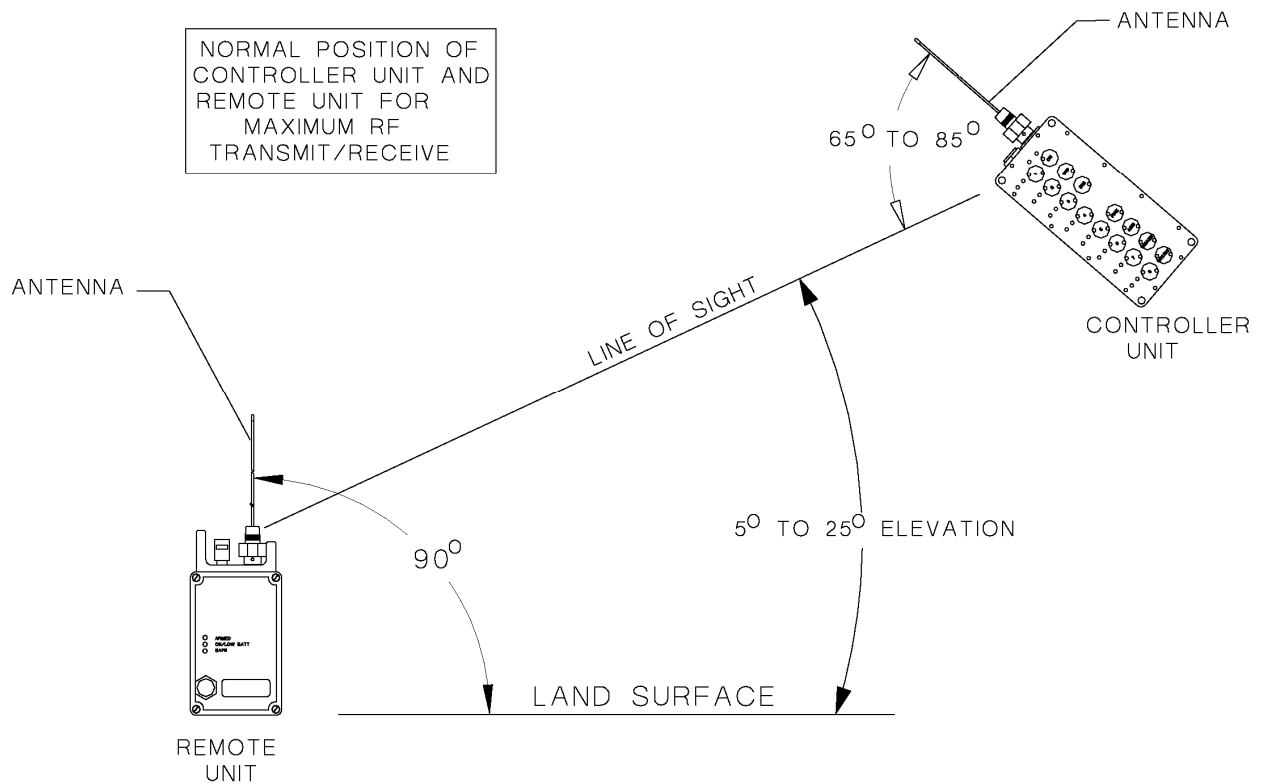
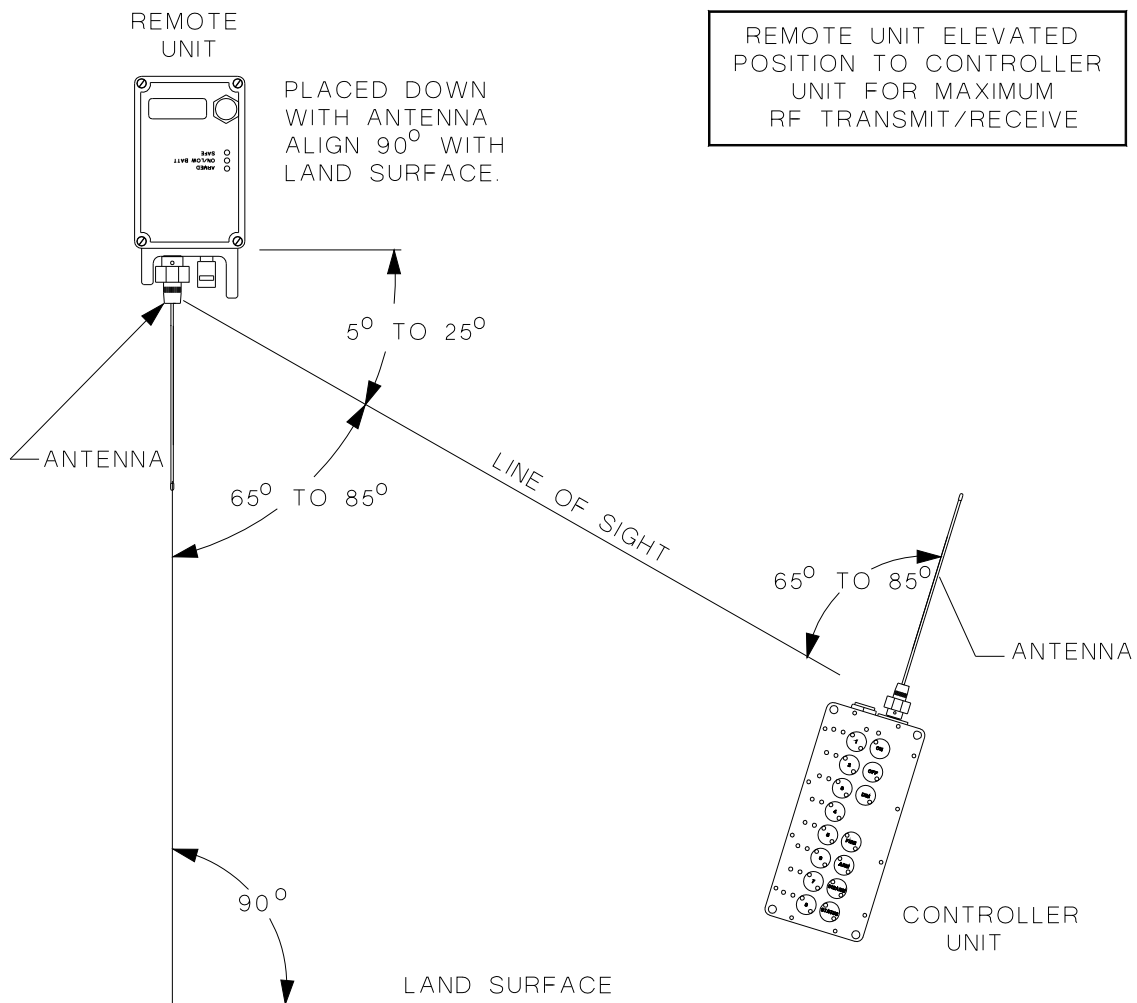
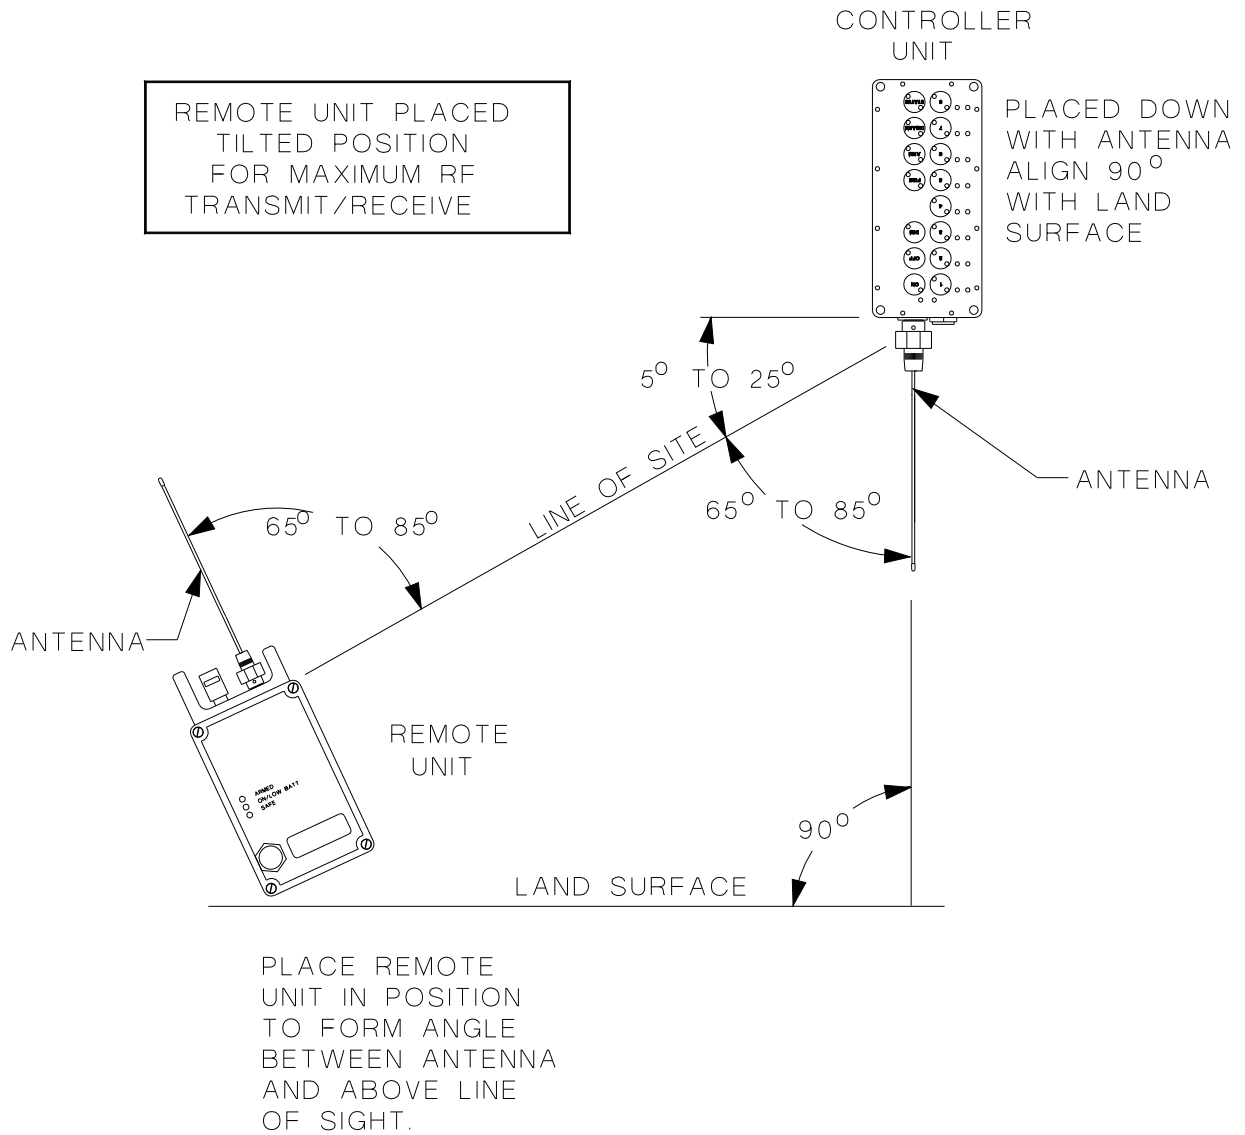
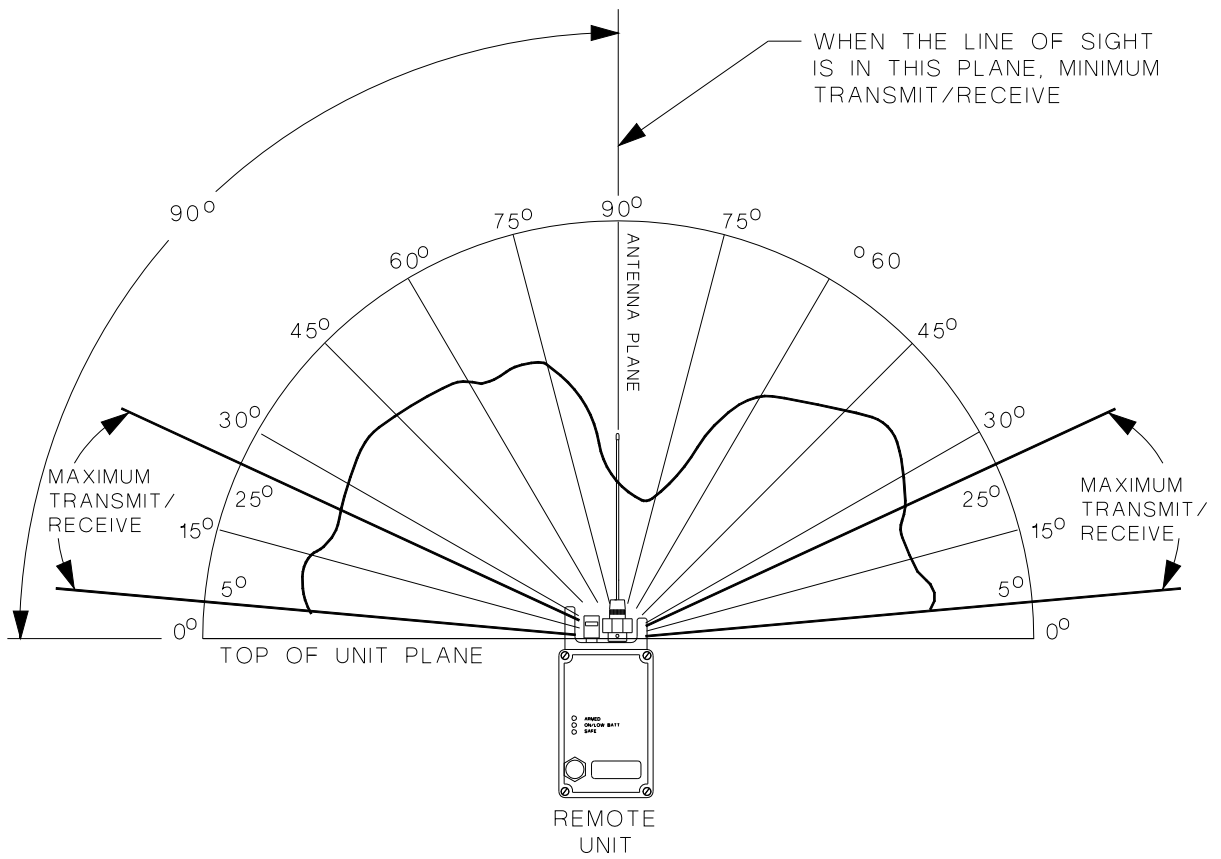

Figure 8-1 Unit Normal Transmission Location
Figure 8-2 Remote Unit Elevated
Figure 8-3 Mini Controller Unit Elevated
Figure 8-4 Antenna Radiation Pattern
8.1.1. When power lines are in the area, the radio transmission distance is reduced. The system can operate at the following distance, when the Mini Controller Unit is elevated to a maximum transmission location angle to the Remote Unit location (see Figure 8-1).
8.1.2. If the Mini Controller Unit and Remote Unit must be placed in a position other than location in Figure 8-1, use Figure 8-2 or Figure 8-3. The minimum transmission will occur when the Mini Controller Unit antenna and the Remote Unit antenna are placed in the line of site. The maximum transmission occurs when the line of site lays in a path of 5 to 25 degrees above unit top plane perpendicular to the antenna. Both the Mini Controller Unit antenna and the Remote Unit antenna have the same radiant energy pattern as shown in Figure 8-4.